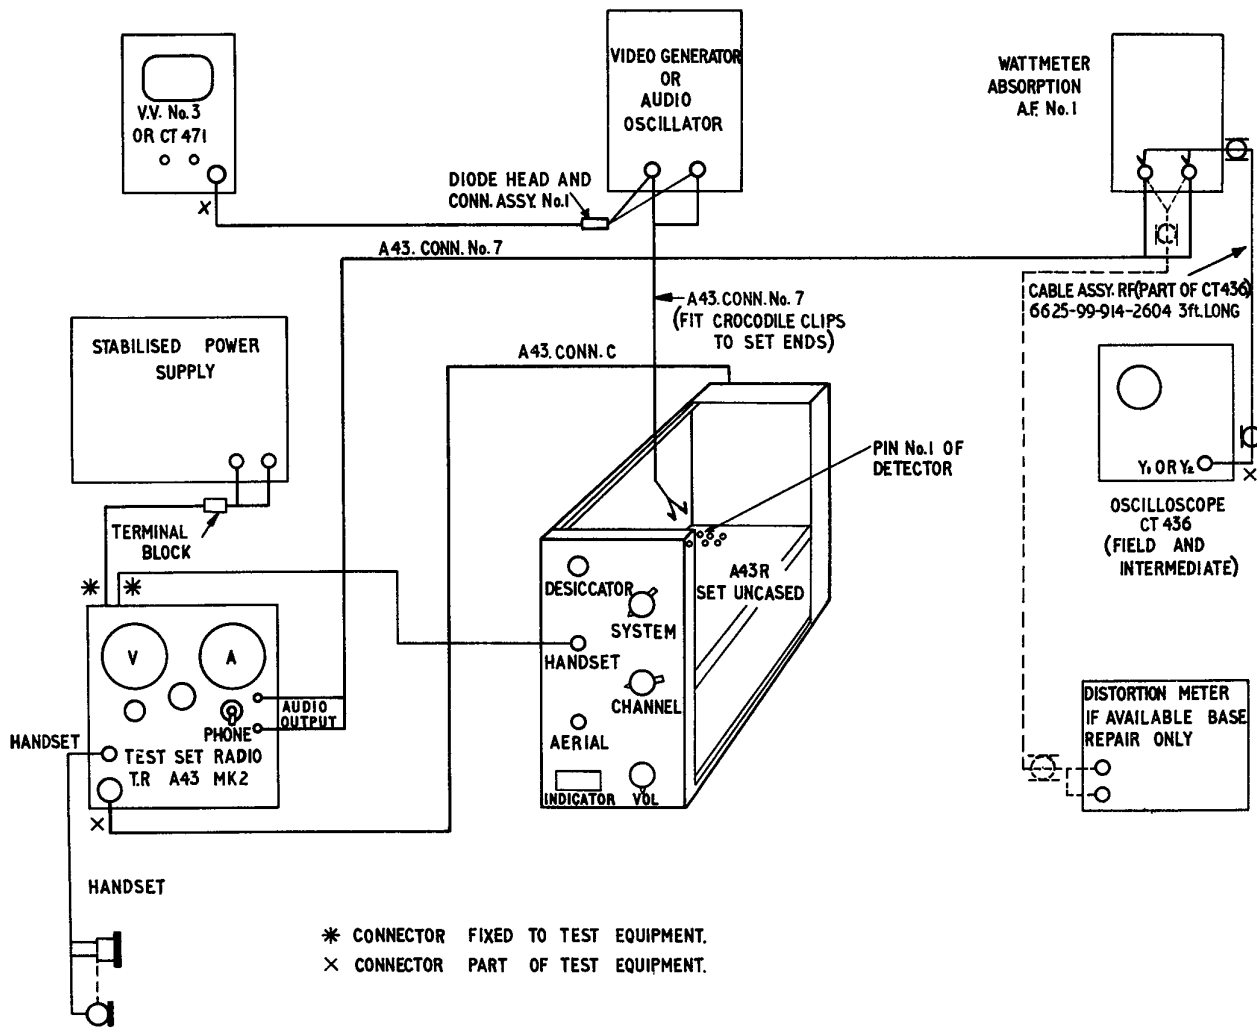

Fig 12 - A.F. response, test layout
82. a. Connect the test equipment as detailed in Fig 12.